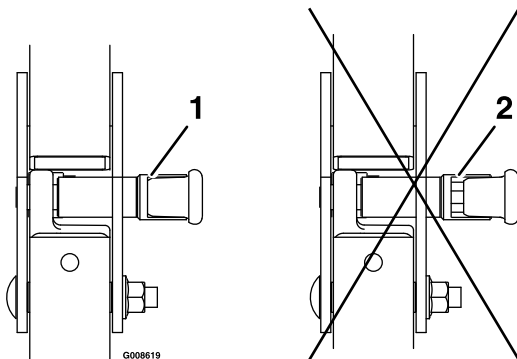

Figure 9
1. Raise the roll bar to the operating position and rotate the knobs until they move partially into the grooves (Figure 9).
2. Raise the roll bar to the full upright position while pushing on the upper roll bar so that the pins snap into position when the holes align with the pins (Figure 9).
3. Push on the roll bar and ensure that both pins are engaged (Figure 9).